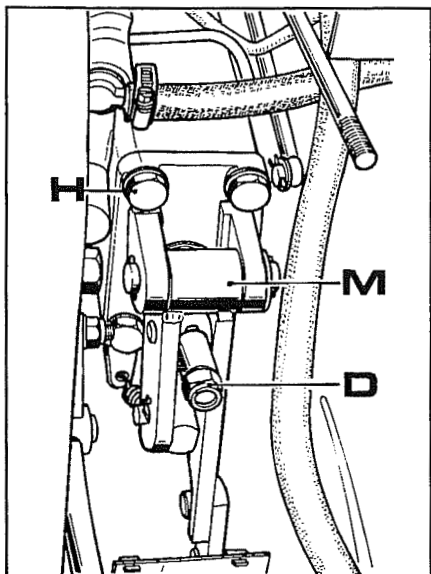

Fig. 10
- 2 Remove nut **D** Fig.10, and then remove return **M** by slackening off screws **H**.